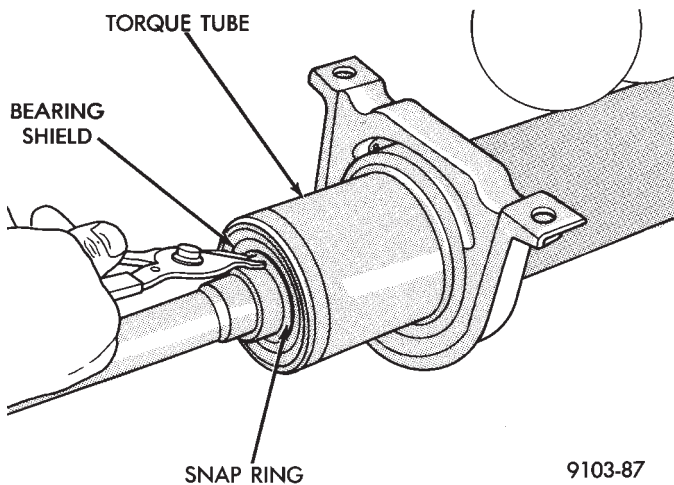

Fig. 13 Remove Torque Shaft Snap Ring and Torque Tube Bearing Shield
- (10) Remove torque shaft snap ring (Fig. 13) and torque tube bearing shield.